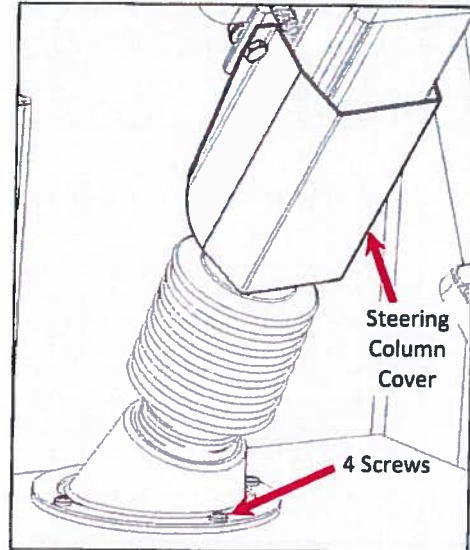

Fig. 2
1. Remove lower steering column cover and discard fasteners. (Fig. 2)
Boot seal and retaining ring should be loose from floor. Keep screws for re-use. (Fig. 2)